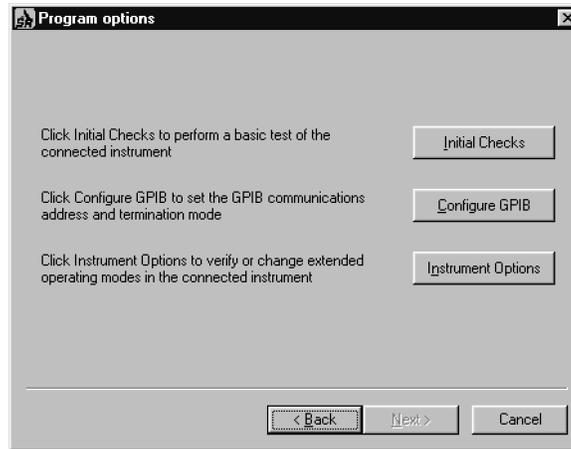

Figure 2-3, Initial Checks Procedure, Program Options Menu
Click the Next button to continue, which displays a second screen where the model number of the instrument being checked is entered. Click the model 7280BFP button and then click Next. The following screen shows the required connections, but since these have already been made, click the Next button again. This accesses the Program Options menu, shown in figure 2-3 below.
- 1) Follow the procedure outline in section 2.2.03 above until you reach the screen shown in figure 2-3.